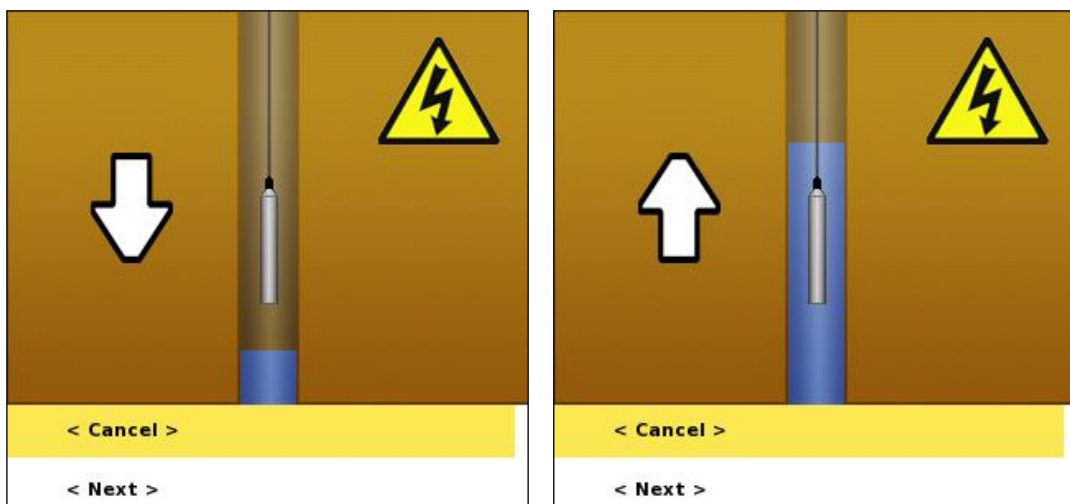

Figure 88 Level Indicator dialog
- A level indicator dialog is shown (Figure 88). The picture on the dialog will change automatically depending on whether water is detected or not, respectively showing that the probe should be lowered or raised to more accurately determine the water level.